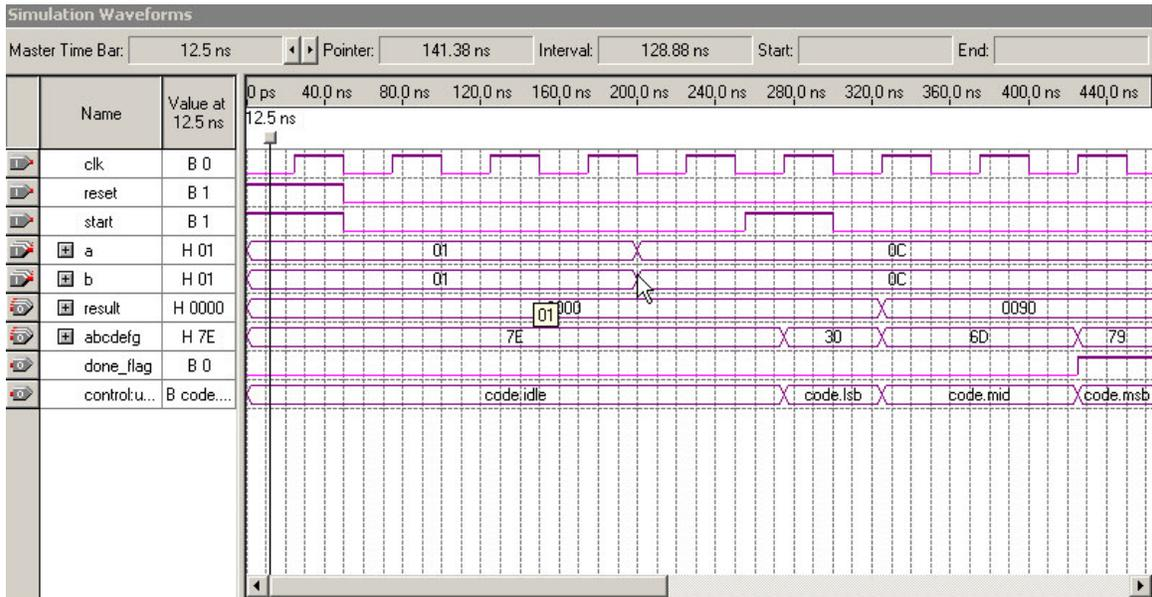

Figure 6-11.
7. Check to see if you get the same results shown in Figure 6-11.